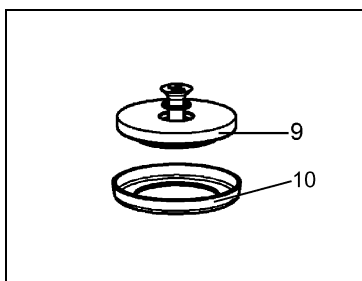

Fig. 6: Orientation of piston seal (10) in relation to retainer plate (9)
1. Hold the connecting rod (14) from the front through the fan opening, and replace the cylinder (13) on the pump housing.
2. Lay new O-ring (12) on cylinder (13).
- a. Lay the new piston seal (10) on the retainer plate (9).
**i** For orientation of piston seal (10) see fig. 6.
- b. Fit new O-ring (8) onto new countersunk screw (7).
- c. Push the new countersunk screw (7) with new O-ring (8) through the retainer plate (9).
4. Fit the same number of washer(s) (11) as previously used on connecting rod (14).